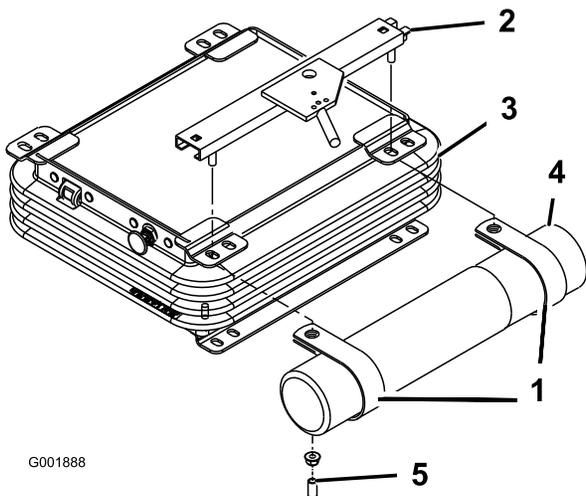

Figure 7
2. Remove the 2 nuts and vinyl caps (if previously installed) securing the upper seat bracket to the left side of the seat suspension (Figure 7).
3. Loosely mount the R-clamps to the seat bracket studs with the 2 nuts previously removed. (Figure 7). The R-clamps are to be positioned under the seat suspension tabs.
4. Install the manual tube into the R-clamps and tighten the nuts (Figure 7).